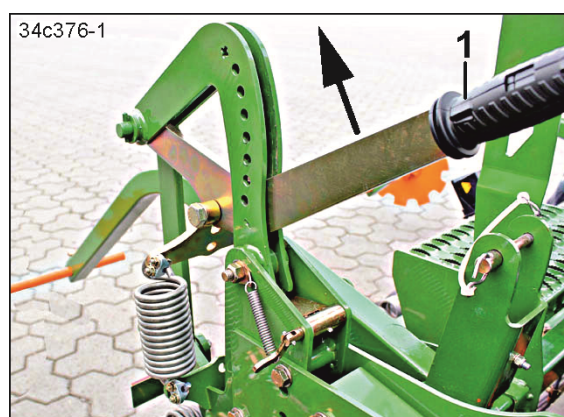

Fig. 149
4. Pull the lever (Fig. 149/1) in the direction shown by the arrow.